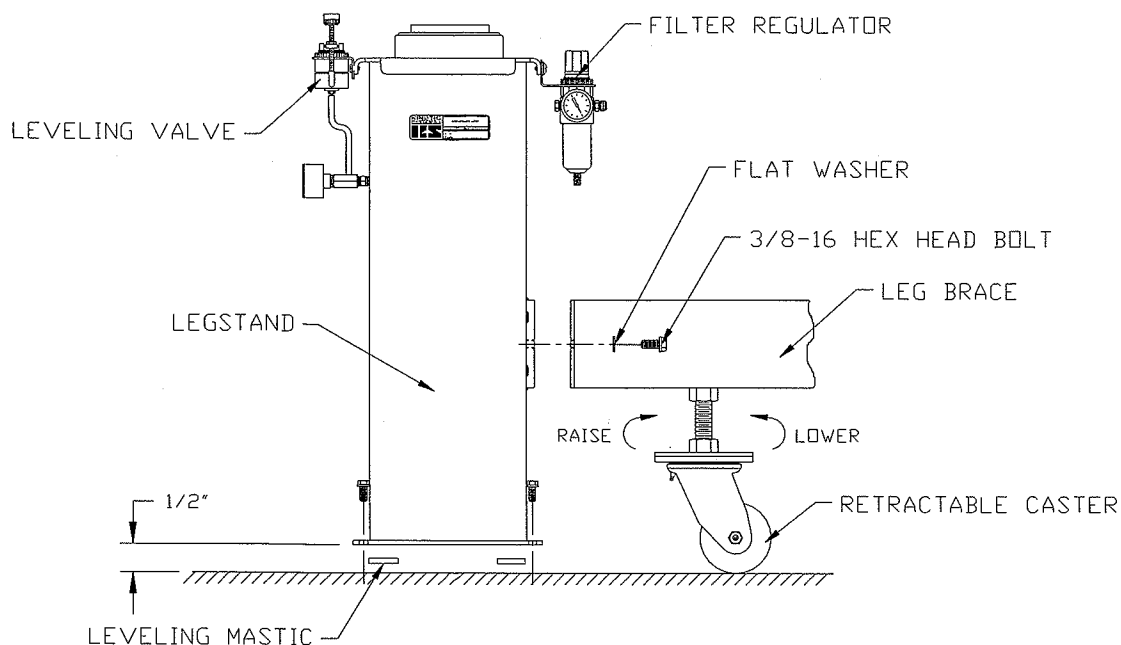

Figure 6. Optional Leg braces and Retractable Caster Installation
4. Place 4 Leveling Mastic Pads under the corners of each individual base plate of isolator or legs prior to placement. These pads are provided to compensate for floor imperfection that will allow isolator to rock (See figure 6)
1. If optional Leg braces and Retractable Caster are supplied with system, then assemble as shown in Figure 6.
7. For movement of this System, lower each Caster as shown in Figure 6 by turning the threaded portion of the Caster clockwise using a 3/4" wrench until the Support System is raised to approximately 1/2".